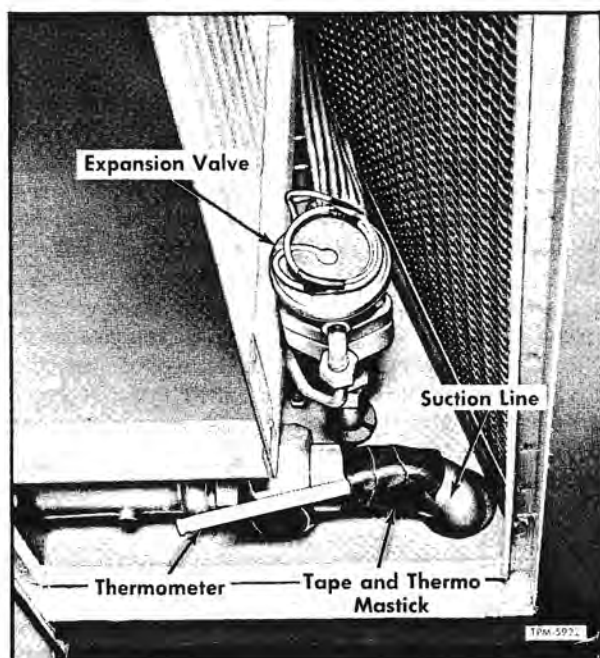

Figure 19—Checking Superheat
1. Apply small quantity of a thermo-type mastic to a remote-reading thermometer and attach to evaporator coil outlet, as shown in figure 19. Thermo-mastic may be available at a local refrigeration service establishment, or it can be obtained from the Alco Valve Company, St. Louis, Missouri.